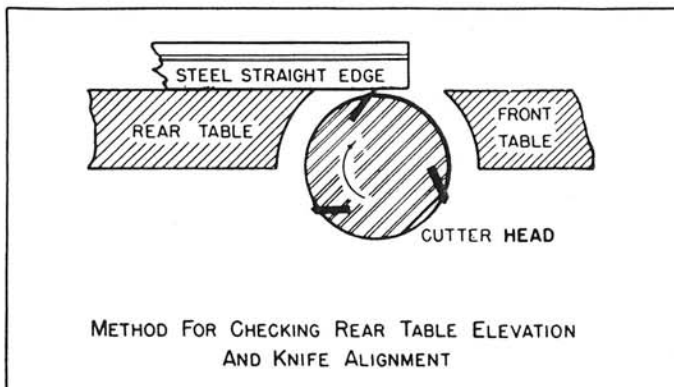

Fig. 10
2. Place a straight edge on the rear table, extending over the cutterhead, as shown in Fig. 10.